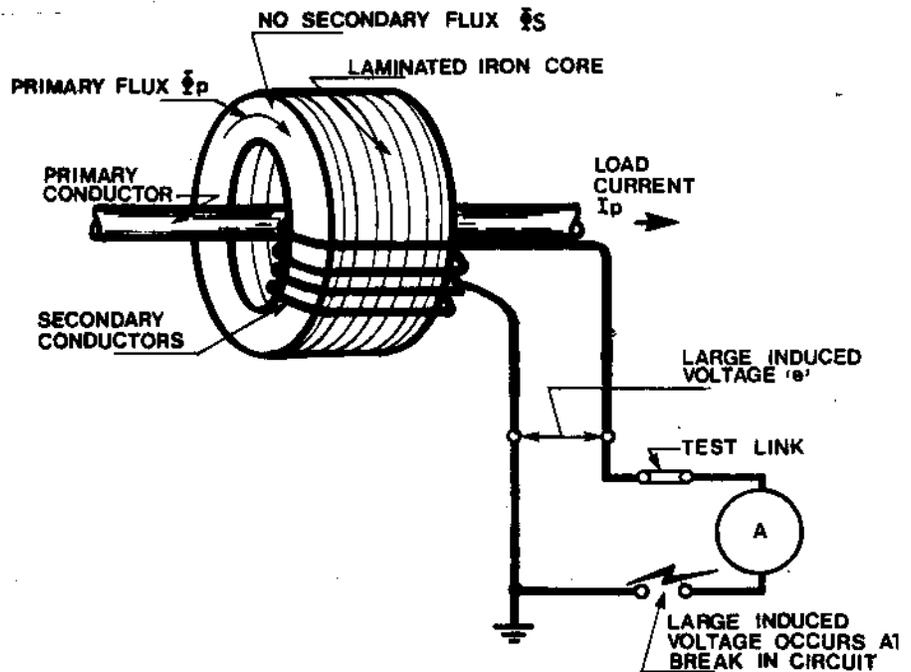

Figure 4: CT on Open Circuit.
- (a) In Figure 4, current is flowing in the primary winding producing ampere-turns (mmf) which produces the primary flux ϕ_p in the iron core. The secondary circuit has been open circuited and because no secondary current is flowing, no mmf and no secondary opposing flux ϕ_s is produced. Consequently, the core has a large flux ϕ_p . This flux ϕ_p cuts the secondary winding and induces a large voltage in this winding. The induced voltage, typically several thousand volts, appears across the CT secondary terminals and across the point where the CT secondary circuit is broken.